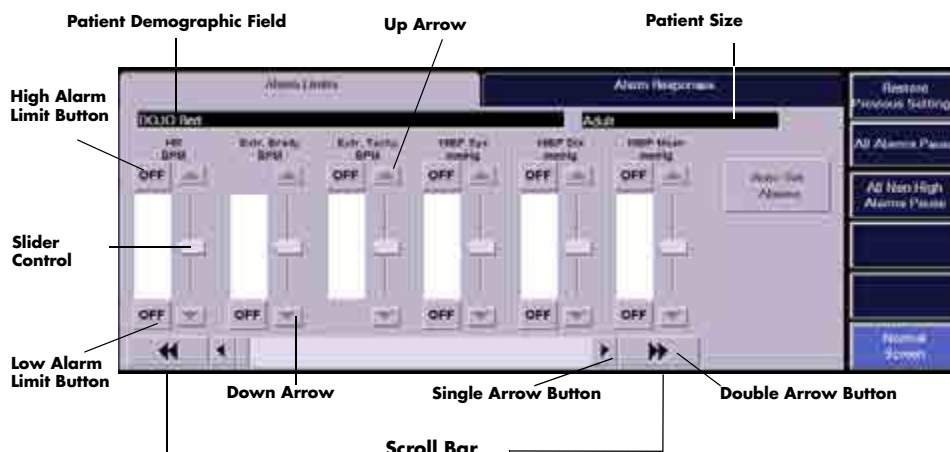

FIGURE 6-2 Alarm Limits Tab
3. The **Alarm Limits** (shown in FIGURE 6-2) and the **Alarm Responses** (shown in FIGURE 6-6) tabs are shown after the correct password is entered. For additional information about alarm limits and alarm responses, refer to “Alarm Limits Tab (Patient)” on page 6-4 and “Alarm Responses Tab (Patient)” on page 6-13.
The patient **Alarm Limits** tab (shown in FIGURE 6-2) adjusts patient alarm limit settings. The alarm limits available will change according to the type of monitoring device assigned to the selected patient tile. The fields discussed in this section may not apply to all users. For additional information regarding alarm limit settings, refer to "Alarms and Events" on page 13-1.